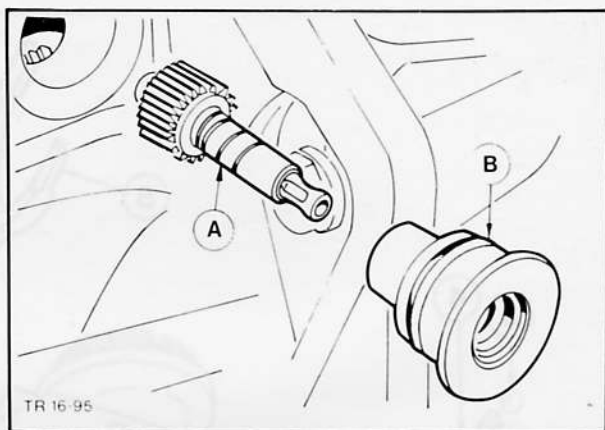
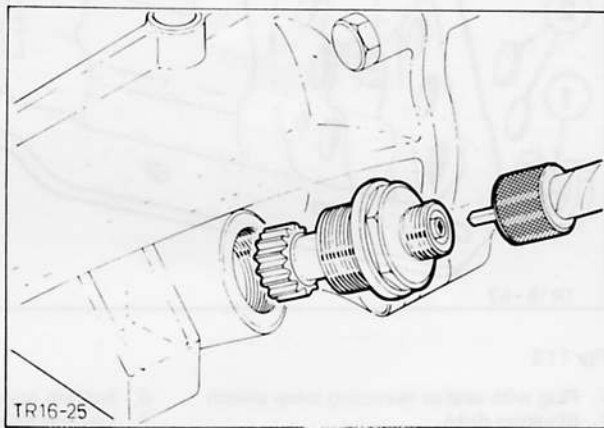

Fig. 110. Speedometer drive unit removed (G gearbox)
Fig. 111. Speedometer drive unit removed (F gearbox)
2. Remove bolt (1) with speedometer cable bracket and detach cable (G gearbox), Fig. 110. Slacken knurled nut of speedometer drive unit, detach cable and unscrew complete drive unit from extension housing (F gearbox), Fig. 111.